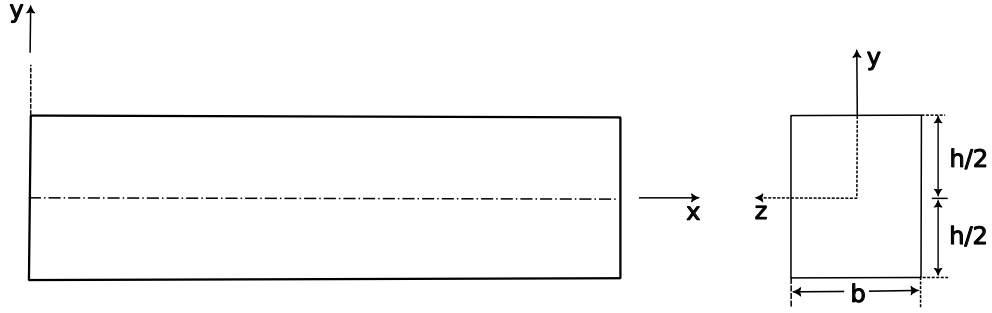

Figure 2
2. Consider the rectangular beam shown in Fig.2. According to the elementary theory of bending, the ‘fibre stress’ in the elastic range due to bending is given by